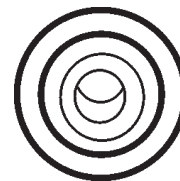

Figure 40. Pre-Heat Lamp
2. Depending on the temperature of the coolant (cold weather conditions), the pre-heat lamp (Figure 40) will light **(ON)** and remain on until the pre-heating cycle has been completed. After completion of the pre-heating cycle, the light will go **OFF** and the engine will start up automatically.